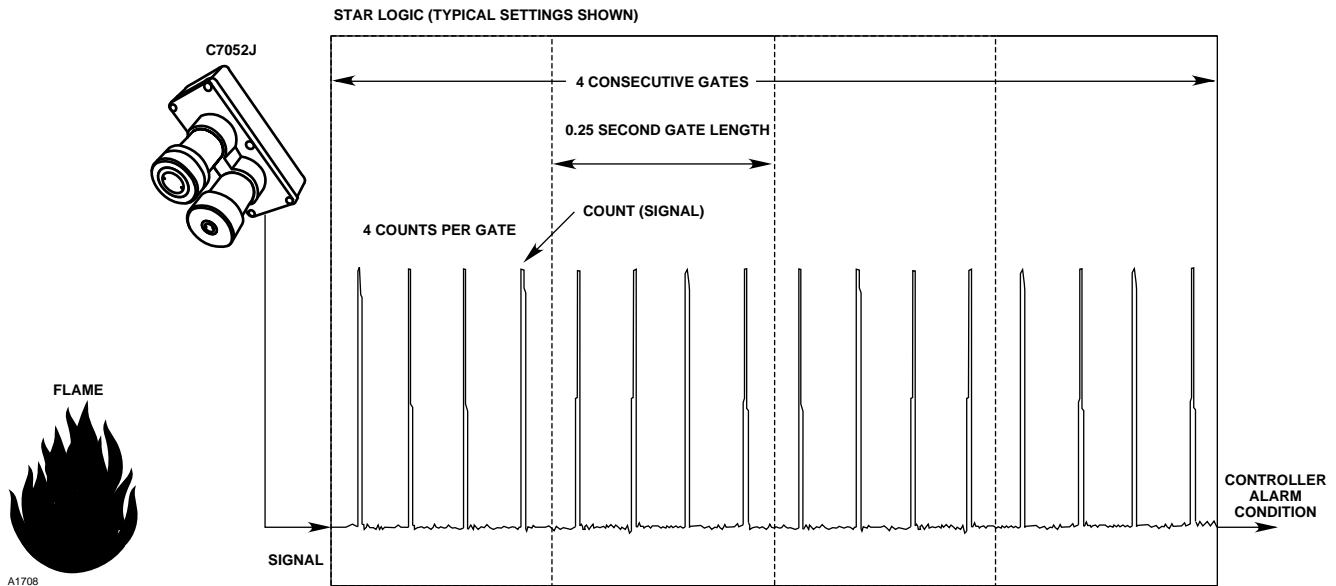

Figure 21—Graphic Representation of STAR Logic (Typical Settings Shown)
The most effective way to set system sensitivity is to install the system, program the STAR Logic according to the typical settings shown in Figure 21, program all other aspects of controller operation according to this section ("Programming the Controller"), then perform the "Initial and Periodic Checkout Procedure" using a UV/IR test lamp and the "STAR Programming Checkout Procedure." If the system fails to respond appropriately during these tests and all system wiring is correct, then system sensitivity (gate length, counts per gate, and consecutive gates) needs to be adjusted. It is important that all wiring and programmed settings be checked to ensure that they are correct before adjusting these settings.
Rocker switch assemblies 2 and 3 control three variables: gate length, counts per gate and consecutive gates required for a fire output. Refer to Figure 21 for a visual
1. Gate Length is adjustable from 31.25 milliseconds to 8 seconds. The gate length is the increment of time that the controller looks at the detector signal to determine if the "Counts per Gate" requirement is fulfilled. In Figure 21, the gate length is 0.25 seconds (Rocker Switch 2-4 closed, Rocker Switches 2-1, 2-2, 2-3, 2-5, 2-6, 2-7, and 2-8 open).
2. Counts per Gate is adjustable from 2 to 15 counts. These counts make up the signal from the detector and are a direct response to a flame or other UV/IR source. In Figure 21, the counts per gate setting is 4 counts (Rocker Switch 3-3 closed, Rocker Switches 3-1, 3-2, and 3-4 open).
3. Consecutive Gates required for a fire output are adjustable from 2 to 15 gates. This is the number of consecutive gates in which the "Counts per Gate" requirement is fulfilled that the controller must see before going into a fire alarm condition. In Figure 21, the consecutive gates setting is 4 gates (Rocker Switch 3-7 closed, Rocker Switches 3-5, 3-6, and 3-8 open).